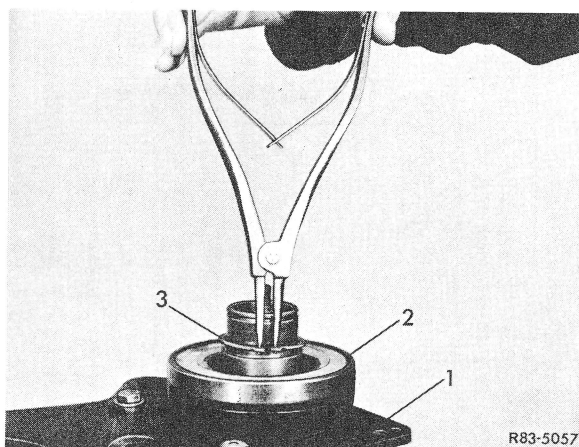

Figure 10
3 Remove locking ring (3) (Fig. 10).
- 5 Mount clutch coil (2) to front head of compressor so that the electrical connections coincide with the markings on the compressor made previously.
- 7 Install locking ring (3) with its flat side facing the coil (Fig. 10).